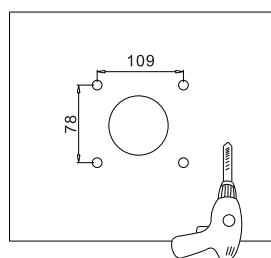

Figure 2-1
1. Cut holes on the wall according to locating plate .(Figure 2-1)